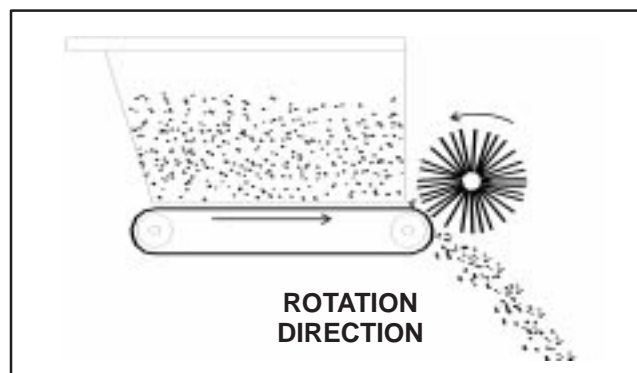

Figure 13
1. Start vehicle engine and test rotation of the conveyor and brush. Place remote hydraulics lever of Workman in the “run” position. The rotation should be as shown in figure 13. If the rotation is backwards the quick couplers need to be reversed.